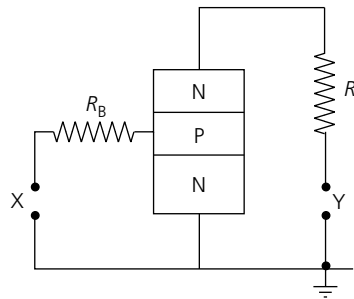

Figure 24.15
- 6 In the circuit of Figure 24.15, the current gain of the transistor is 150. Calculate the value of the base current and the output DC voltage at the collector. Use the value $V_{BE} = 0.7 \text{ V}$.